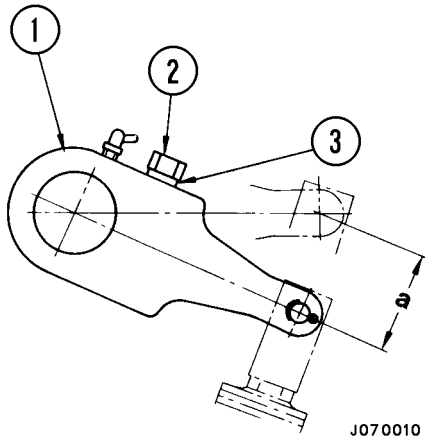
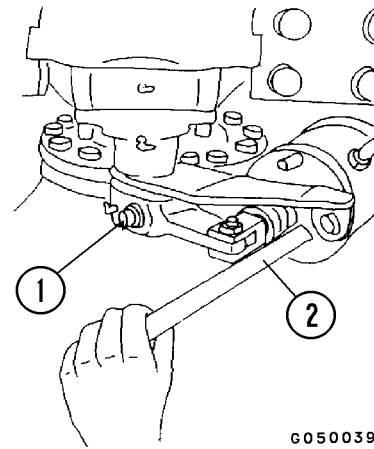

FIGURE 4-18. ARM ADJUSTMENT
FIGURE 4-20. ADJUSTING CLEARANCE
2. Push in capscrew retainer (3, Figure 4-18) of slack adjuster (1) until the capscrew can turn, then turn capscrew (3) clockwise.
4. After adjusting the pad clearance, actuating stroke "a" (Figure 4-18) of the rod should be measured and adjusted to approximately 50 mm (1.97 in). (Figure 4-20)